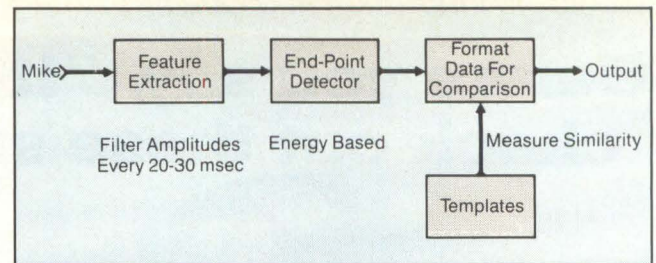

Figure 3: A block diagram from Voice Control Systems of a template-based speech recognizer. Most recognition systems use this technology.
**Figure 3** illustrates a typical template-based recognizer, the most prevalent type of speech recognizer. A template recognizer requires that whole words be stored separately on each template. The user sets the sensitivity for the recognizer to negate any problems resulting from variations in speaker loudness. The analog signal is digitized into a spectral representation. Parameters are taken from the digitized speech sample at designated intervals by operations such as filtering, Fourier transforms or linear predictive coding (LPC). An algorithm, usually proprietary, normalizes and compresses the extracted parameters for pattern matching by determining the beginning and the end of each isolated word.